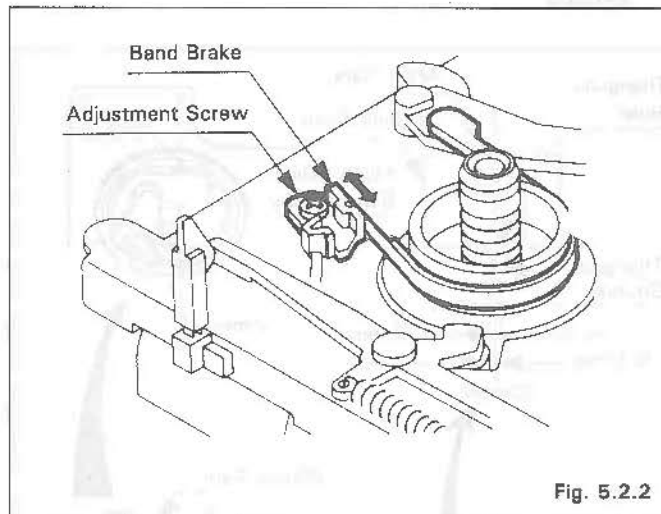

Fig. 5.2.2
4. If necessary, loosen the back tension adjustment screw, and adjust the position of the band brake to obtain the required tension value. (Refer to Fig. 5.2.2)